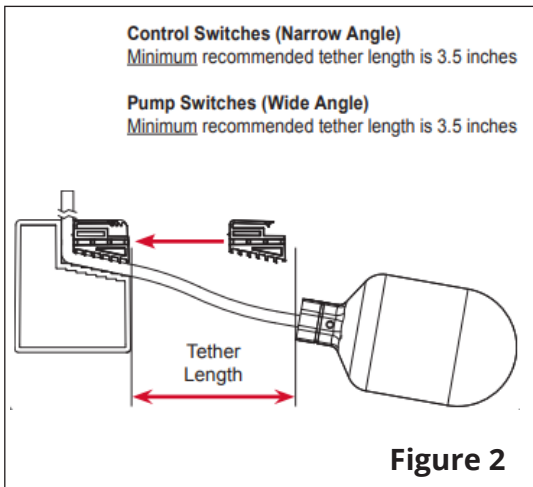

Figure 2
2. Determine the desired activation level, place the float switch cable in the slot of the cable weight with the clip removed and tether to the appropriate length (Figure 2).
3. Secure the float switch cable by sliding the cable clip into the slot until it clicks and stops snug against the cable without pinching (Figure 2 and 3). Perform a pull test. If the float switch cable slips, press the cable clip into the next notch.